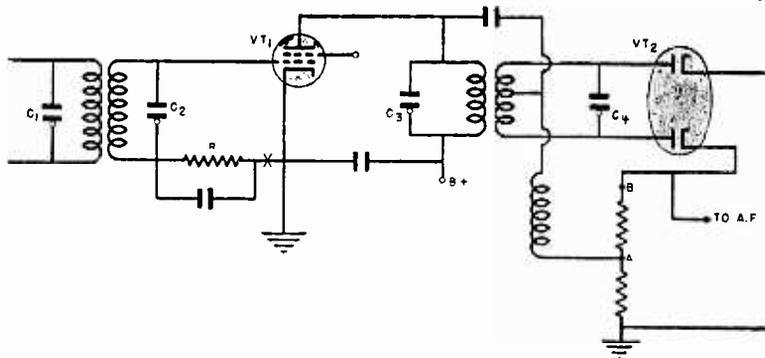

FIG. 12. Typical limiter and discriminator stages of an FM receiver.
**The Limiter-Discriminator:** In aligning this type of circuit two separate steps are necessary. The i-f stages up to the limiter grid circuit must be aligned first, and the detector aligned separately. The limiter and discriminator stages of a typical FM receiver are shown in Fig. 12.
Either a microammeter or a vacuum-tube voltmeter can be used as an output meter in aligning the i-f stages up to the limiter. If a microammeter is used, it must be connected in series with the receiver grid circuit at point "X" in Fig. 12. To connect the microammeter, the circuit must be opened at that point and the negative lead of the meter connected to the grid return and the positive lead to the receiver chassis, or B—. A .01 mfd. condenser, preferably ceramic, should be connected from the point at which the microammeter connects to R and the receiver chassis to by-pass the meter. If a vacuum-tube voltmeter is used for output indications the meter must be connected across grid resistor R in Fig. 12.
Connect the dc voltmeter across one of the discriminator load resistors, in Fig. 12, between point A and ground or between points A and B. (The former connection is preferable.) If the meter reads down-scale, reverse the leads. Adjust the limiter output circuit, C3 in Fig. 12, for maximum voltage across the load resistor. This completes the adjustment of the limiter.
tween point B and ground in Fig. 12. If the multimeter reads down-scale, reverse the test leads. Adjust the transformer secondary, C4 in Fig. 12, for zero voltage. If you are using a multimeter, reverse the meter leads to make certain you have the actual zero point. This completes the i-f amplifier adjustments.